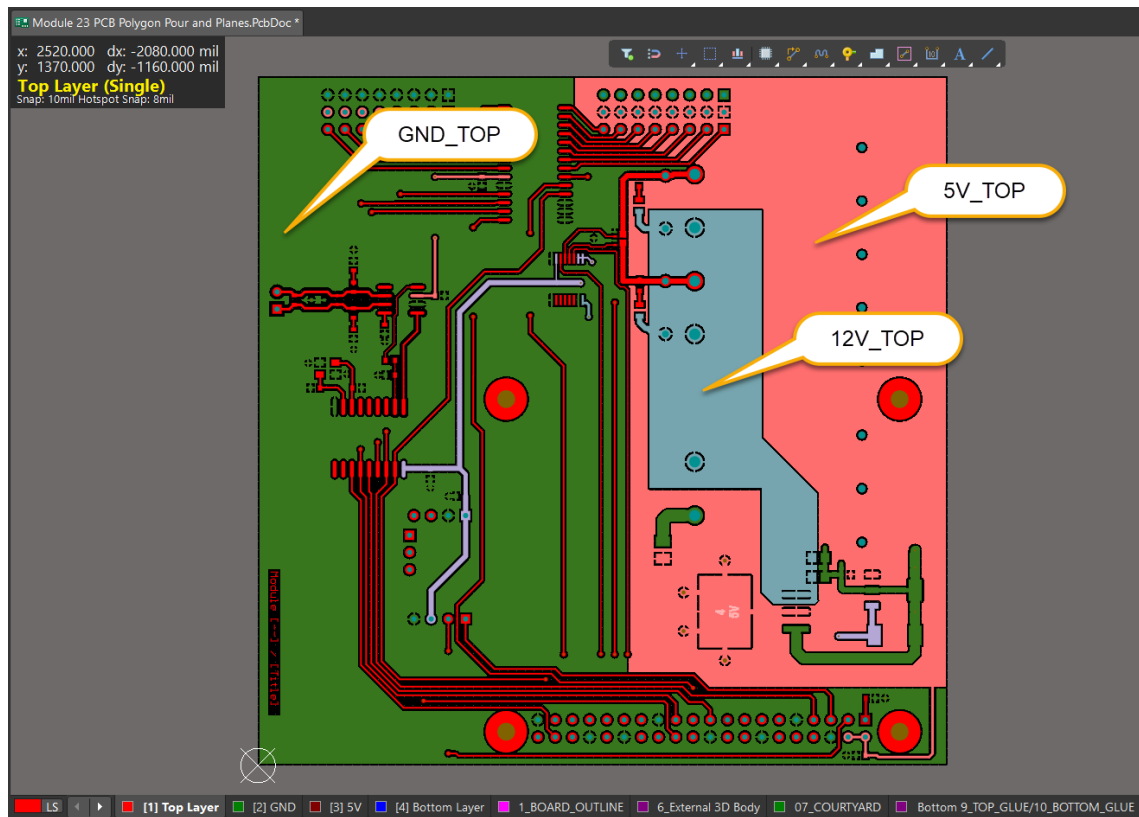

Figure 10. Polygon Pours on Top Layer
33. Click on the Top Layer from the layer bar to set it as the active layer. Notice the multiple polygon pours on this layer and the specific clearances as shown in Figure 10. With multiple polygons overlapping, pour order or priority must be defined.